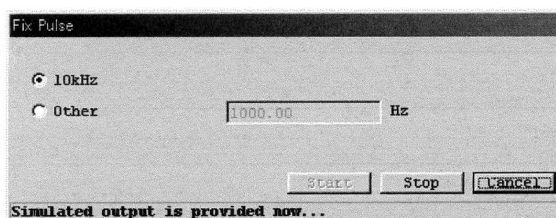

Fig.86
- ④ In response to clicking on "OK" button, a preselected pulse output appears. While this pulse output stays on, a message "Simulated output is provided now..." appears as shown in Fig. 86.